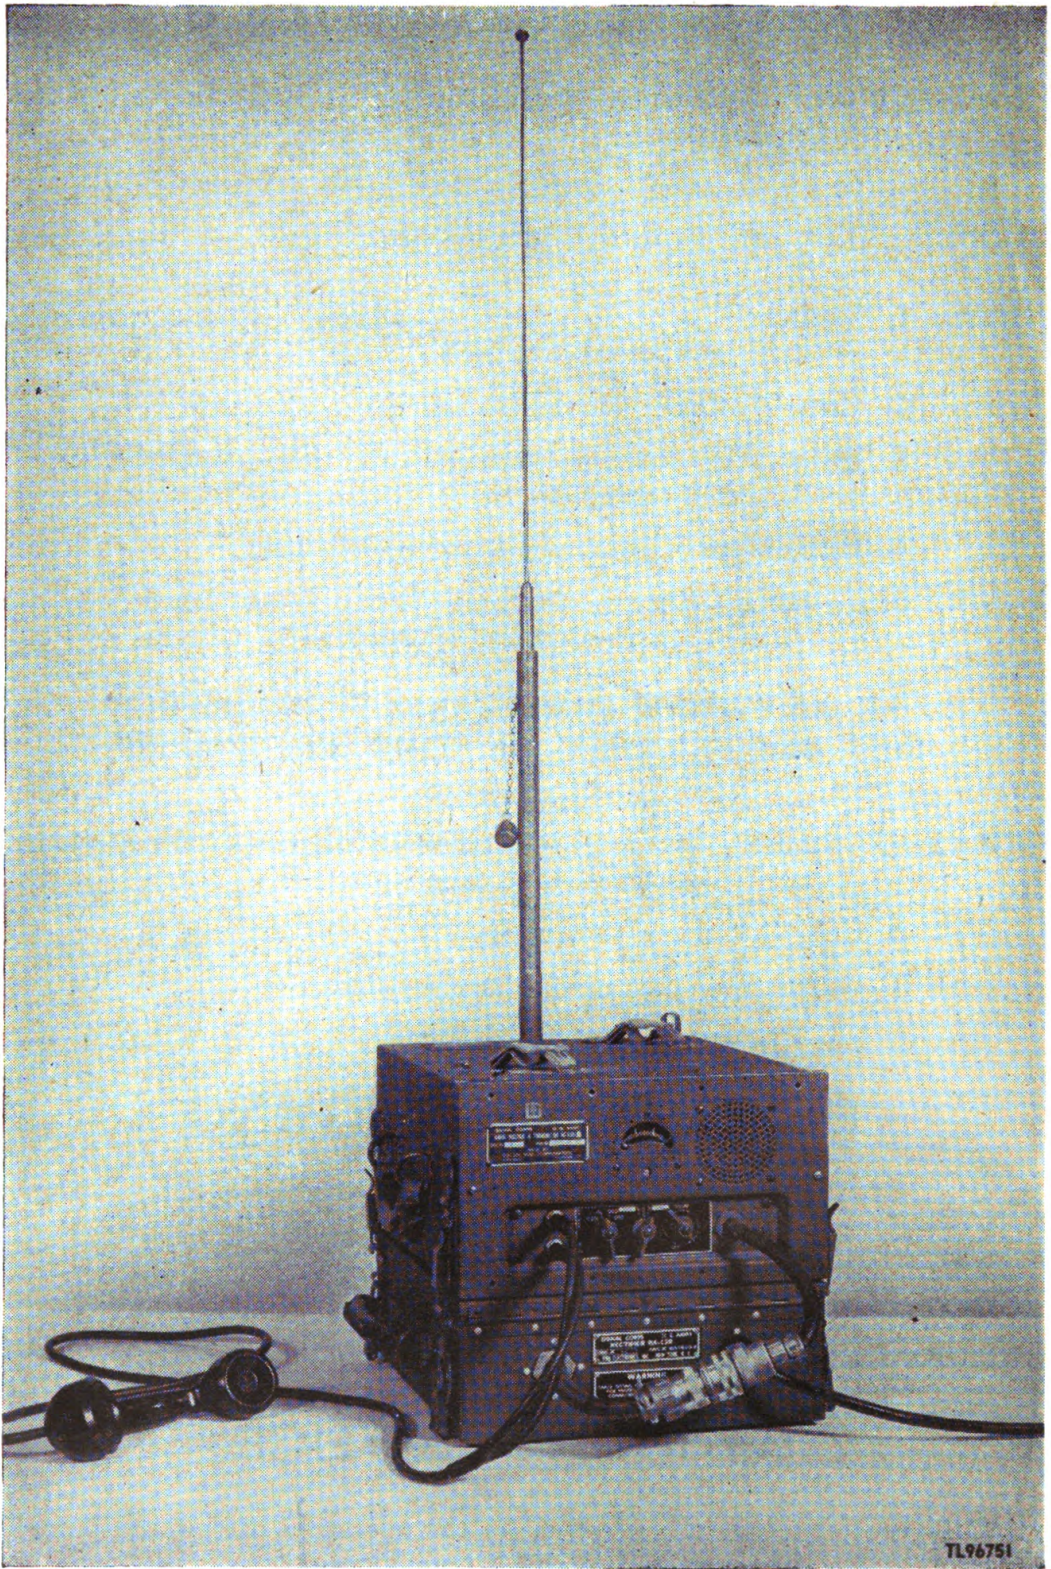

Figure 1. Rectifier RA-120, set up for operation.
e. Place the radio equipment on top of Rectifier RA-120 and secure it to the rectifier with the hooks and catch clips as shown in figure 1.